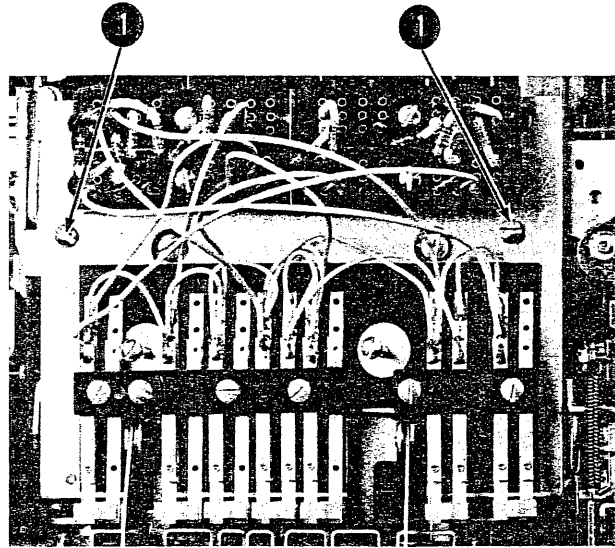

Figure 4-21. Rotate-Selection-Differential Removal (Steps 1-3)
3. Remove the two screws (No. 1, Figure 4-21) that hold the plate to the frame. Remove the contact assembly, holding it to the front with a rubber band. Do not lose the shims, if present.